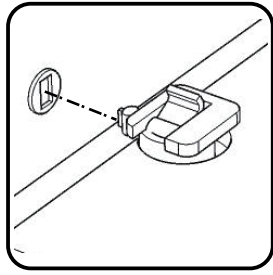

Figure 2
Attach Middle Panels (D) and (E) to unit, then flip the locks. (See Figures 2 and 3)